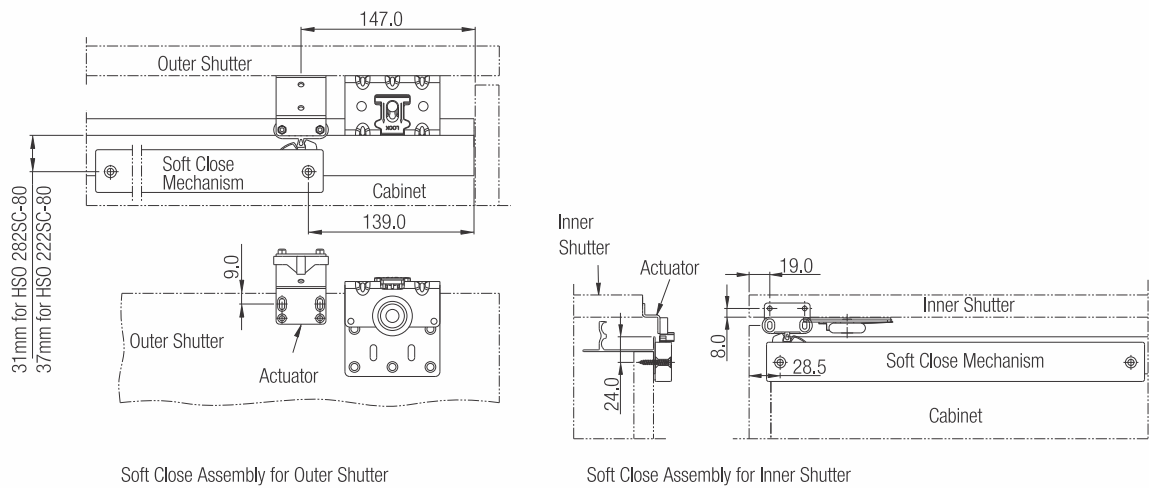

Fig. 4A.
- 6.1 Fit the Soft Close Assembly as shown in Fig. 4A.